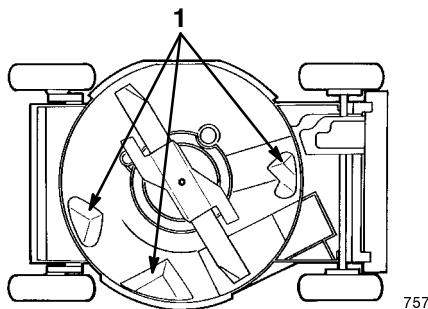

Figure 17
To ensure the best performance, keep the underside of the lawn mower housing clean. Be especially careful to keep the kickers free of debris (Fig. 17).
3. Tip the lawn mower onto its **right** side (air filter up) (Fig. 17).